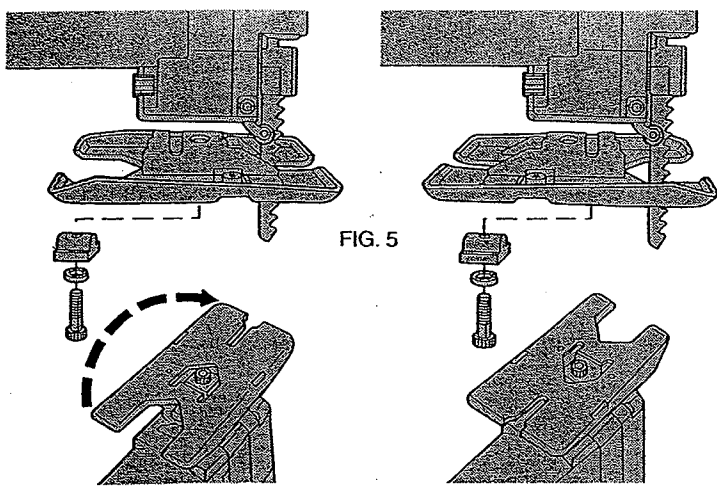

FIG. 5
To reverse the shoe position remove the screw from the bottom of the tool, as shown in Figure 5, and remove the shoe from the jig saw. (Be careful to note the position of the clamp. This clamp must be re-installed the same way or the shoe will not fit properly.) Turn the shoe around and re-install noting carefully that, when the slot is forward, the screw goes through the hole in the shoe and when the wide opening is forward, the screw passes through the slot in the shoe.
**NOTE:** Study Figure 5 before attempting to reverse shoe.